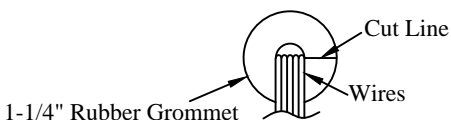

Figure 7: Wire Grommet
- If the front access holes are 1 $\frac{1}{4}$ " holes, **Cut** the 1 $\frac{1}{4}$ " wire grommets from the inner hole out (Figure 7).
- Place** the 1 $\frac{1}{4}$ " wire grommets or 1 $\frac{1}{2}$ " plastic bushings around wires (Figure 7).